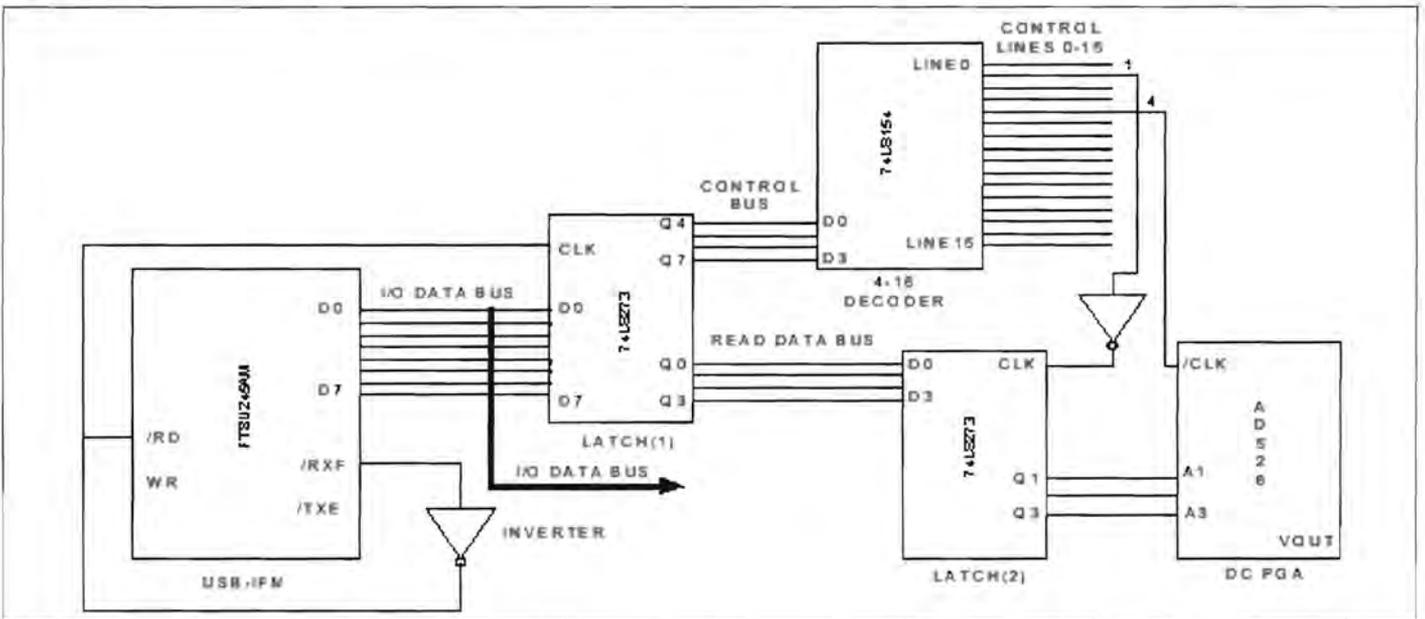

Figure 9: Interfacing USB-IFM to DC PGA
The full logic circuit design for interfacing USB-IFM to the DC PGA is shown in **Figure 9**. The 4-bit Read Data Bus and two Control Lines of the basic USB logic interface circuit (see **Figure 5**) are used. The 4-bit Read Data Bus is connected to Latch (2), whose last three outputs go to input bus A1-A3 of the DC PGA. The Control Lines (1) and (4) activate Latch (2) and the DC PGA, respectively.